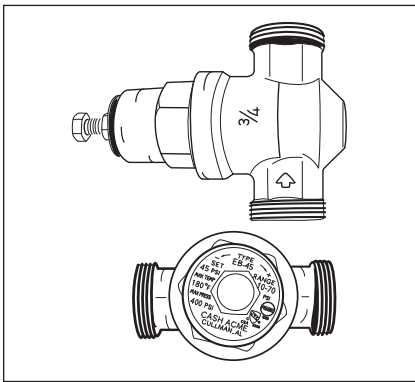

Figure 3 - Install a Pressure Reducing Valve if required.
- Pressure Reducing Valve (Figure 3)